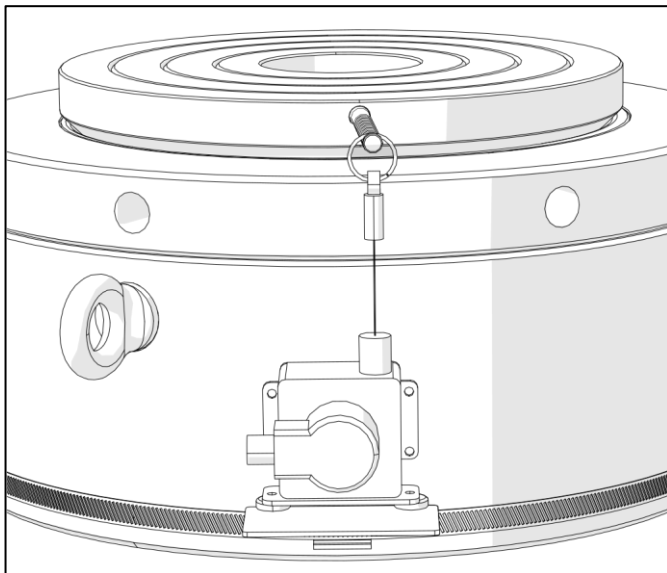

Figure 5.5: Displacement Sensor Mounting
5. With all sensors and sensor cables correctly fitted, make the sensor connections between the cylinder bodies and the piston saddle bars. (See figure 5.5)
- Rotate the Mounting Kit Band (28) so that it sits directly below the saddle bar as shown in Figure 5.5 below.